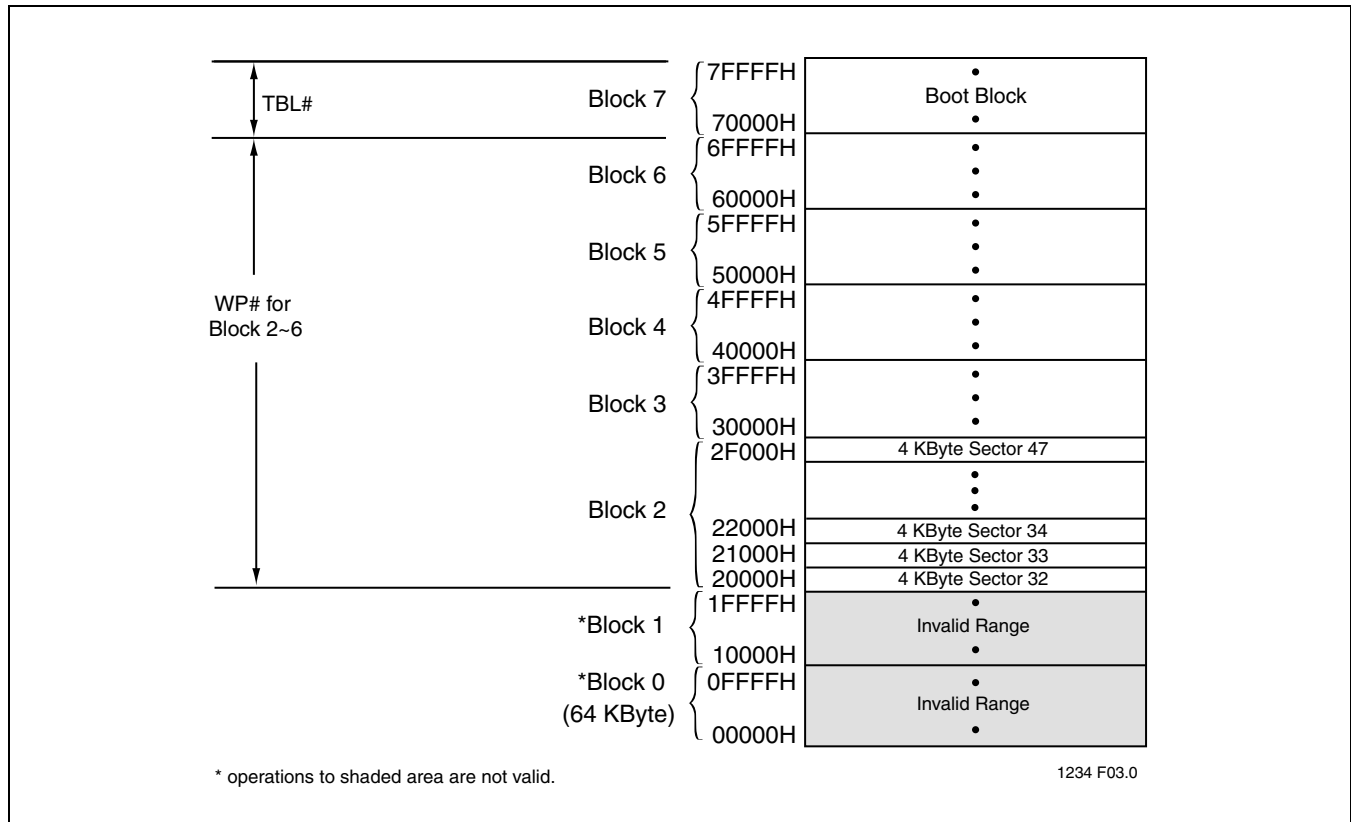

FIGURE 4: Device Memory Map
The SST49LF030A flash memory devices can operate in two distinct interface modes: the LPC mode and the Parallel Programming (PP) mode. The mode pin is used to set the interface mode selection. If the mode pin is set to logic High, the device is in PP mode. If the mode pin is set Low, the device is in the LPC mode. The mode selection pin must be configured prior to device operation. The mode pin is internally pulled down if the pin is left unconnected. In LPC mode, the device is configured to its host using standard LPC interface protocol. Communication between Host and the SST49LF030A occurs via the 4-bit I/O communication signals, LAD [3:0] and LFRAME#. In PP mode, the device is programmed via an 11-bit address and an 8-bit data I/O parallel signals. The address inputs are multiplexed in row and column selected by control signal R/C# pin. The row addresses are mapped to the lower internal addresses (A₁₀₋₀), and the column addresses are mapped to the higher internal addresses (A_{MS-11}). See Figure 4, the Device Memory Map, for address assignments.